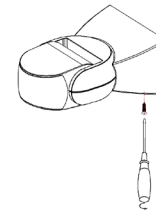

Figure1
- Loosen the screw at the bottom of the sensor and remove the cover (refer to the figure1).